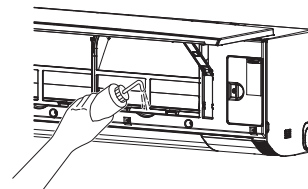

Fig. 24
- 2) Remove the air filters and pour some water into the drain pan to check the water flows smoothly. (Refer to Fig. 24)